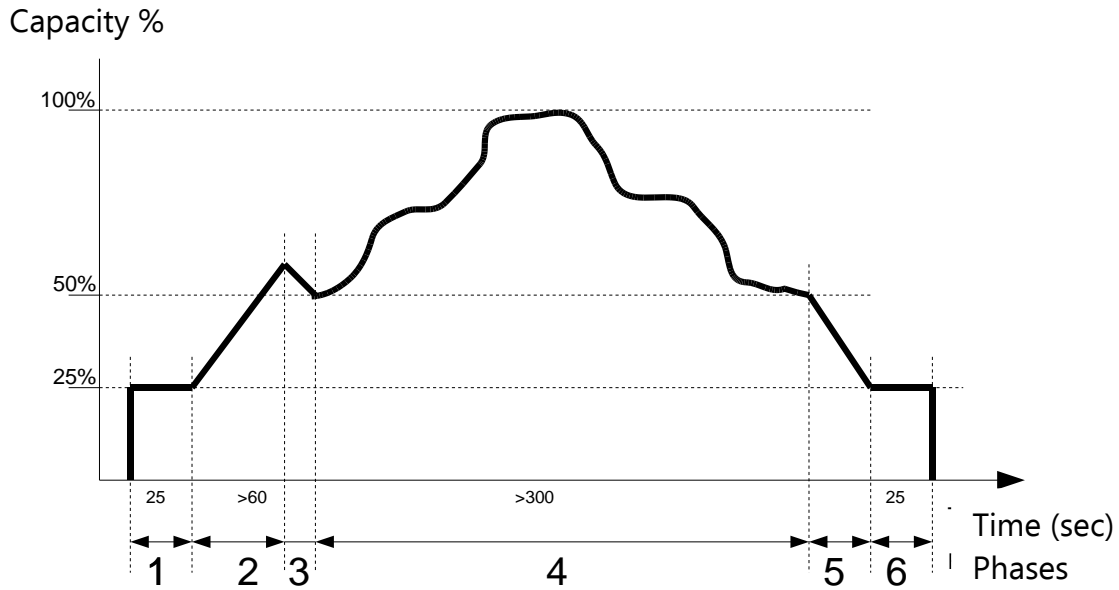

Fig. 21 Logic control of solenoid valves for stepless configuration
Cooling capacity control is obtained using solenoid valves (14), (15) and (16) which have to be excited according to logic control shown in Fig. 21 and Table 10.